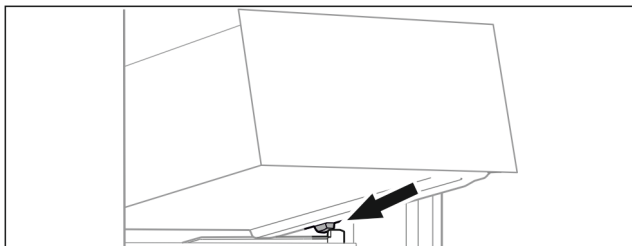

Fig. 64
- Place drawer at an angle behind the stoppers on the molded rib. (see Fig. 64)